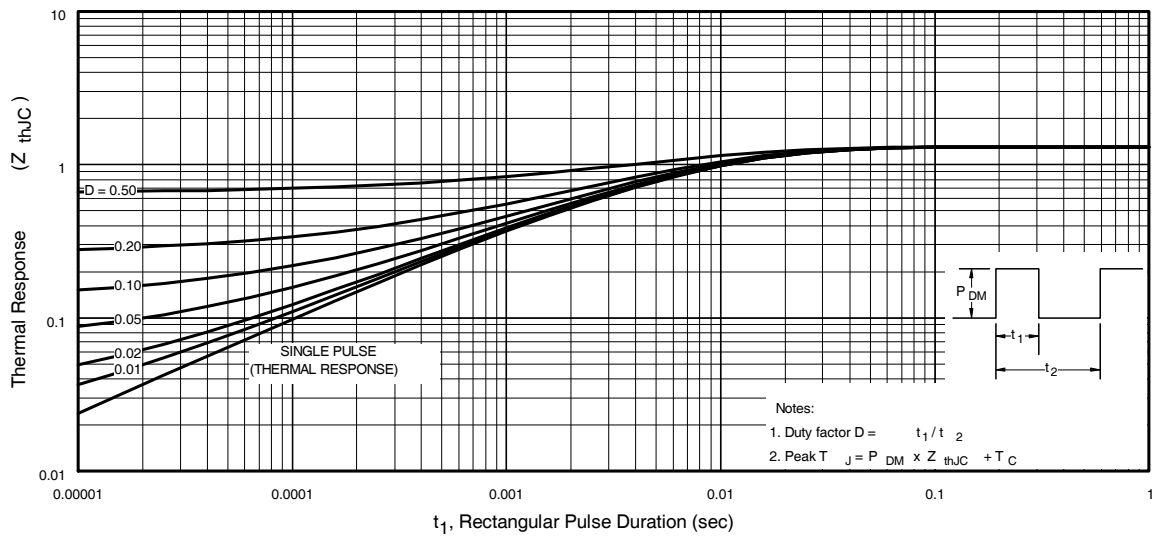

Fig 11. Maximum Effective Transient Thermal Impedance, Junction-to-Case
- ① Repetitive rating; pulse width limited by max. junction temperature. (See fig. 11).
- ② Limited by T_{Jmax} , starting $T_J = 25^\circ\text{C}$,
$Z_{thJC}(D, t_{av})$ = Transient thermal resistance, see figure 11)